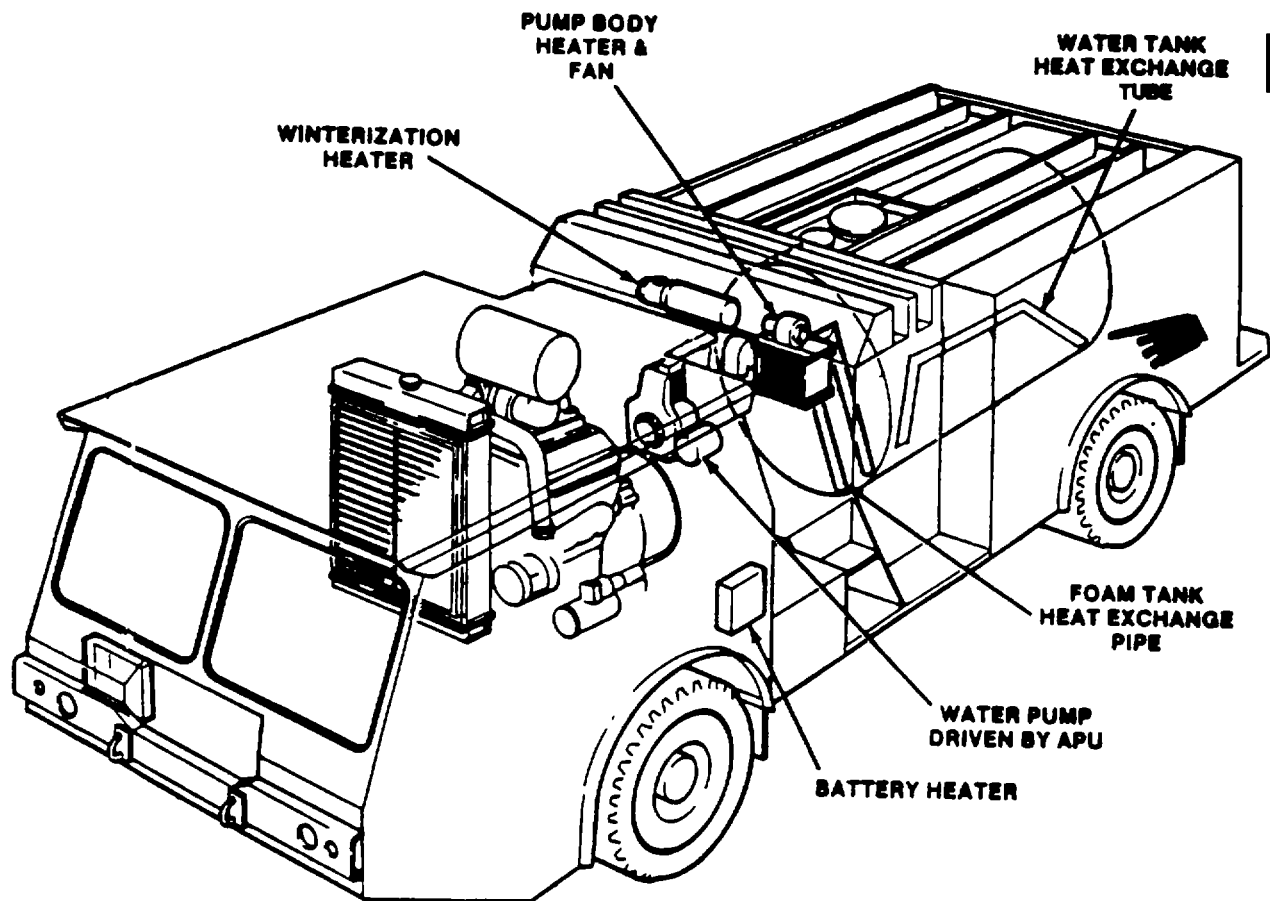

Figure 1-16. Auxiliary Power Unit
(1) The Auxiliary Power Unit (APU) consists of a five horse-power, four cycle, air cooled diesel engine driving a 12-volt 80-amp alternator and the circulation pump needed for operation of the winterization system, (see fig. 1-16). The APU is equipped with an electric starter motor as well as a rope pulley for manual cranking. Fuel for the APU is provided from the main engine fuel tank.
(2) The APU is located in the lower front right compartment of the hose body. The combustion air filter is mounted under the hose body on the back face of the compartment. The engine exhaust is piped out of the compartment toward the rear of the truck. A blower fan in the pump body is connected with ducting to the hose reel compartment to provide warm air to this compartment and thus prevent freeze-up of the hose reel components.